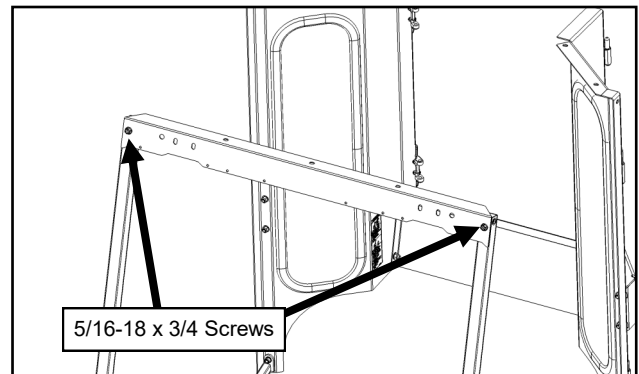

Fig. 9.1 (Install Windshield Support)
- 9.1 Install the Windshield Support to the A-pillars. See Figure 9.1.